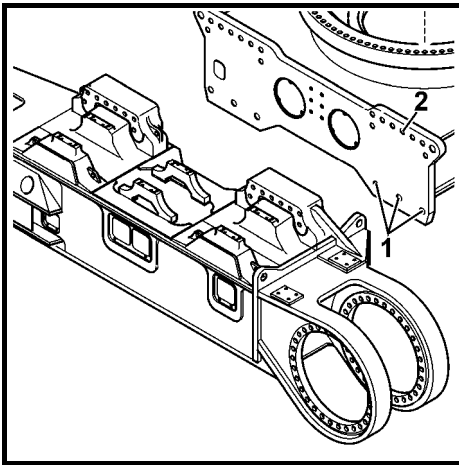

Fig. 53
The lower bolts M64 (Fig. 53, pos. 1) must be torqued to 17500 Nm (12900 ft.lbs).
The upper bolts M64 (Fig. 53, pos. 2) must be torqued to 17500 Nm (12900 ft.lbs).